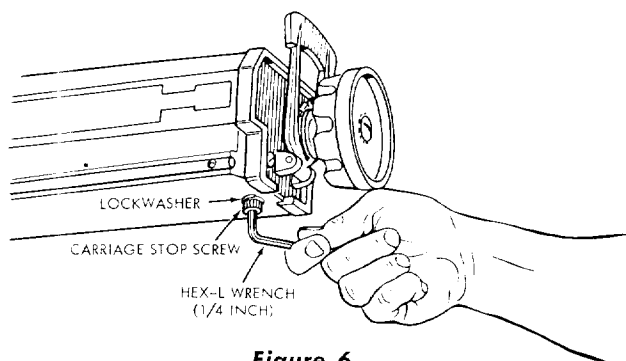

Figure 6
- Refer to figure 6 and, with a 1/4-inch hex-L wrench, remove the carriage stop screw and lockwasher.
- Install and tighten the carriage stop screw and lockwasher. (See figure 6.)